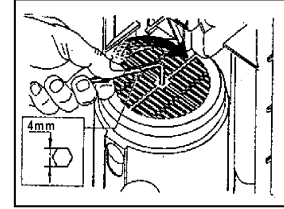

Fig. 10
2. **Long Storage:** If you plan to store your machine for a long period it is recommended that you run antifreeze through the machine before storage. If fan seizes after long storage period, turn nut which holds in fan to loosen fan assembly. (This must be done while power is turned off.) (Refer Fig.10.)